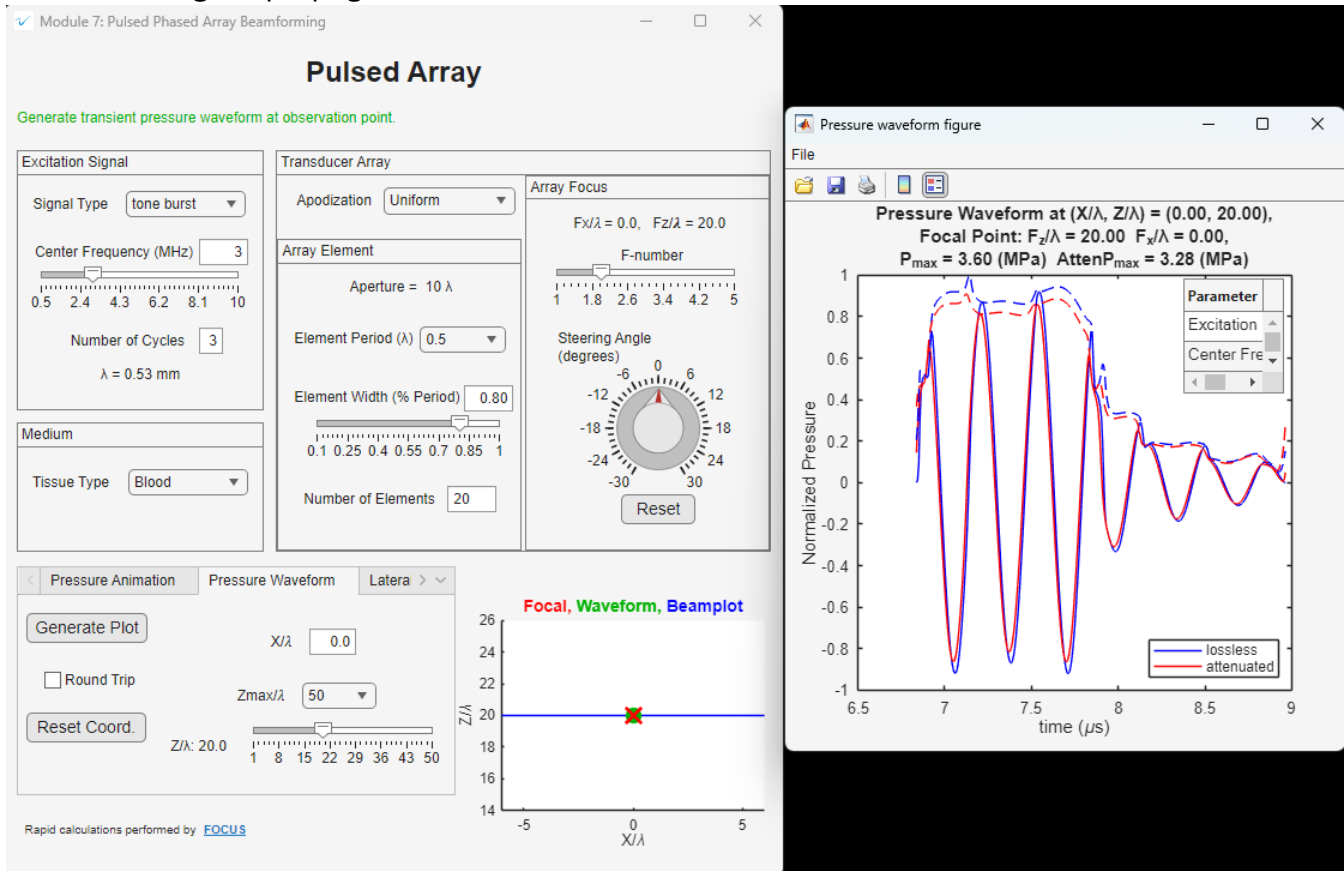

Figure 44: Pulsed Array Simulator GUI: Pressure Waveform Example
- Under the **Pressure Waveform** tab, the default location is on the propagation axis at the focal distance. In this case, the location is set for $X/\lambda = 0$ and $z=F$, as indicated graphically in the plot at the lower right corner of the GUI. The Z/λ slider allows waveforms to be visualized at other distances; the green waveform dot in the plot tracks the selected Z/λ slider position. Similarly, off-axis positions are controlled by the X/λ edit window—it is recommended to choose small values close to the propagation axis, as the beam is narrow; the green dot tracks this position accordingly. Round-trip waveforms can be displayed by checking the round-trip box. To display a waveform for the default conditions of this walkthrough, click the Generate Plot button. Two waveforms are displayed in the popup window: one for a lossless medium and the other for a selected absorbing medium. In addition, the corresponding envelopes and settings for the plot are also shown in the title and scrollable plot inset. See Figure 44.